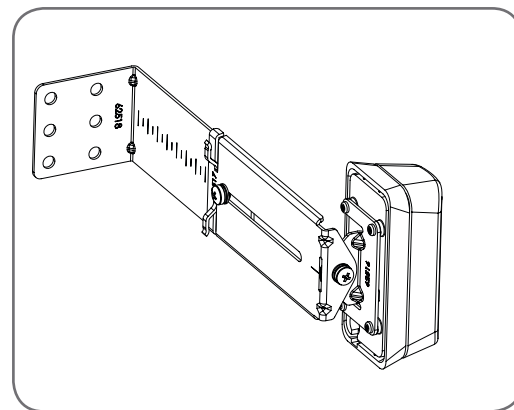

Fig 6.2
- Attach the bracket (2) to the Safety Beam transmitter with four M3 x 5 taptite screws (5) and attach the other side to the adjustment bracket (3) with the pan head screw (6). (Fig. 6.2)